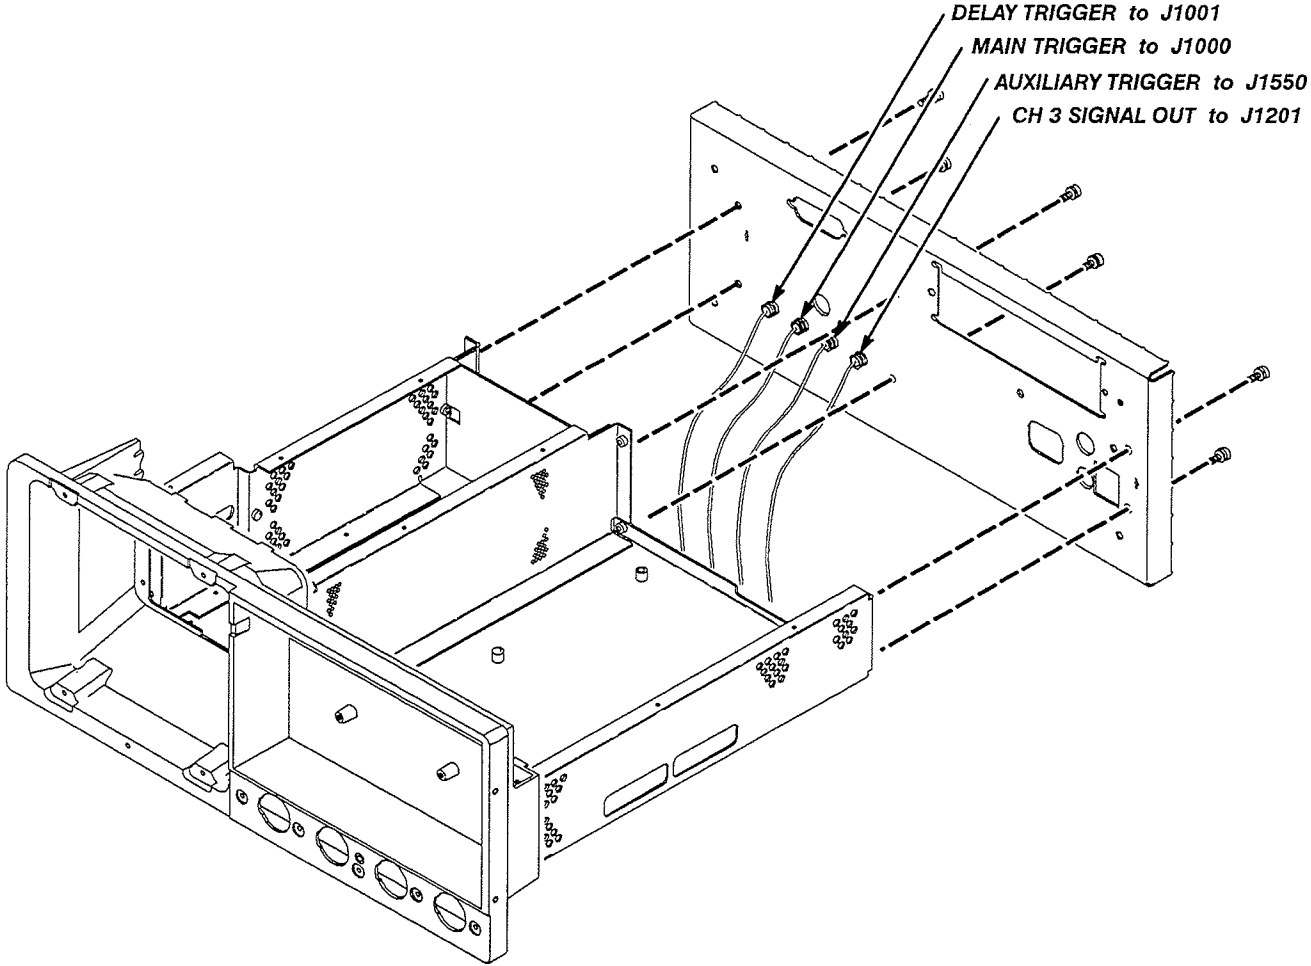

Figure 6-16: Rear Chassis Removal
3. *Remove the rear chassis:* Use Figure 6-16 as a guide when doing the following substeps: